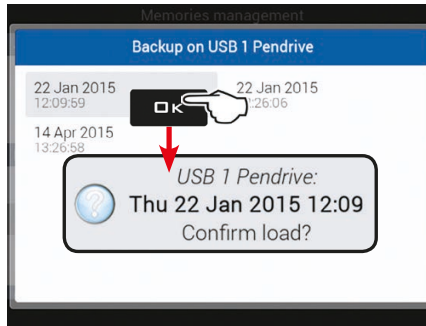

Fig. 309
- Select the backup folder to be loaded (Fig. 309) and press **OK**.